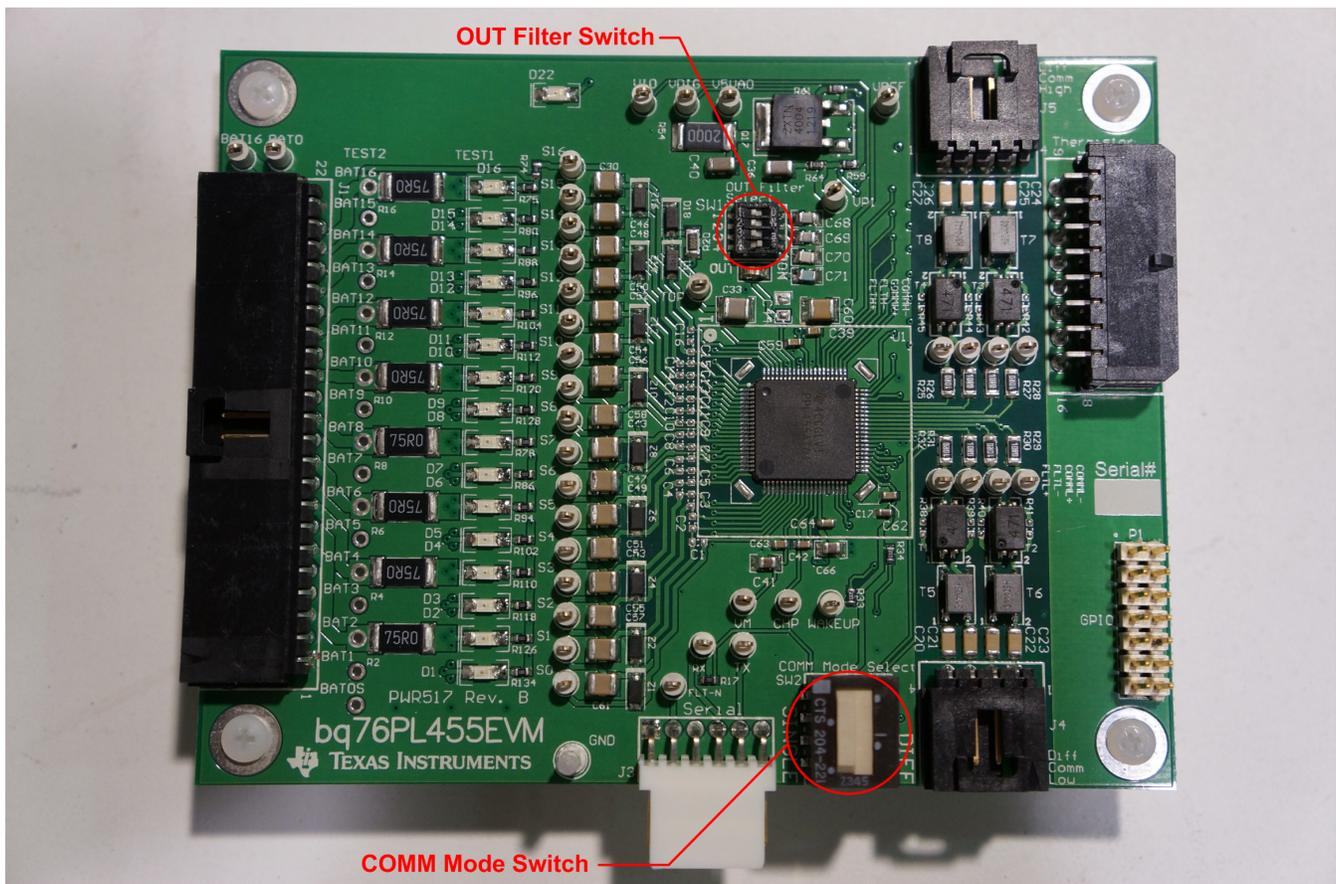

Figure 9. Single bq76PL455EVM Switch Configuration
Figure 9 shows an example of a single bq76PL455EVM configuration.
1. The configuration for a sample period setting of 60.04 μ s with 2.7 nF by setting switch 1 on the OUT FILTER switch package to "ON" is shown in Figure 9.
2. On the bottom bq76PL455EVM that is connected to the PC, set the SW2 - *COMM Mode Select* switch as shown in Figure 9. On all other stacked bq76PL455EVMS, set the lever on the SW2 - *COMM Mode Select* switch package in the opposite direction, toward the DIFF label
3. Set SW1 - *OUT Filter Select* switches on all bq76PL455EVMS to the desired setting as outlined in Section 5.1.1 or as shown in Figure 9.